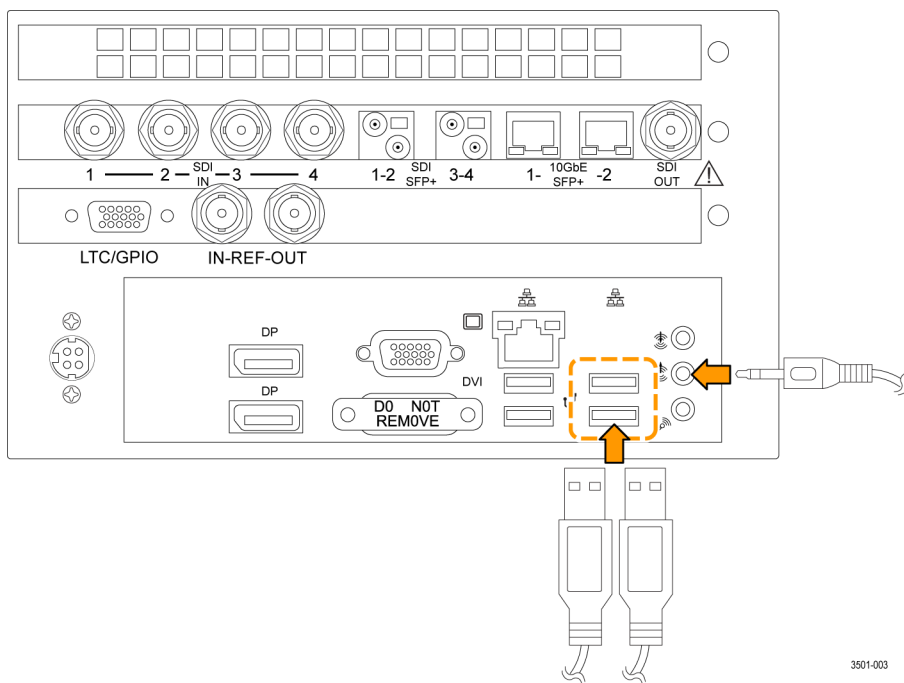

Figure 4: Connecting the cabinet USB and audio cables to the PRISM monitor
- c. Connect the cables from the USB ports and headphone jack on the dual rack cabinet to the rear of the instrument. (See Figure 4.)